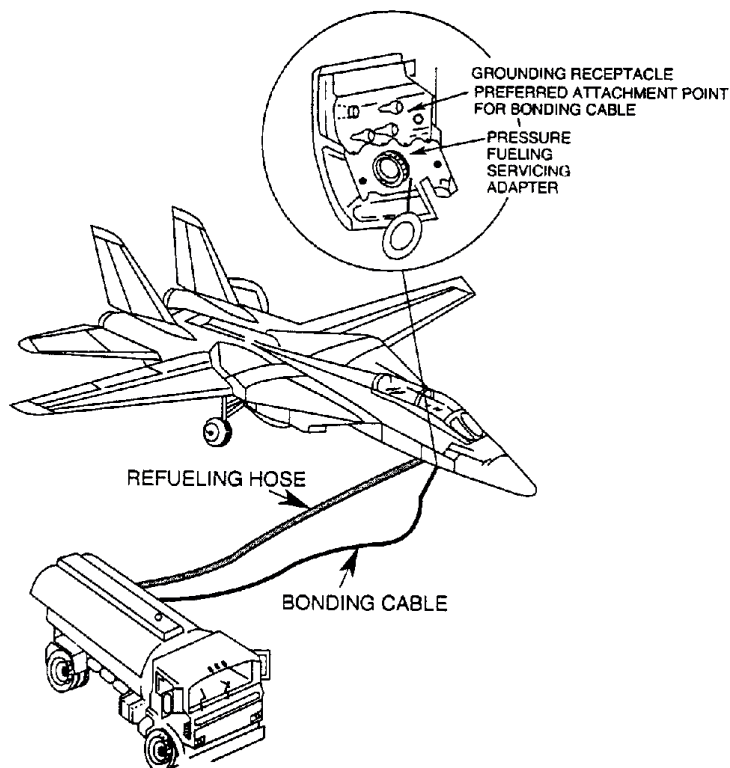

Figure 5-14.—Electrical bonding of aircraft and truck (Cold Refueling).
3. Attach bonding cable between refueling equipment and aircraft (see fig. 5-14). NO aircraft engines or auxiliary power units are started or stopped. External power will NOT be connected, disconnected, switched on or off. Changing aircraft's electrical power status can create significant ignition sources (plane captain).